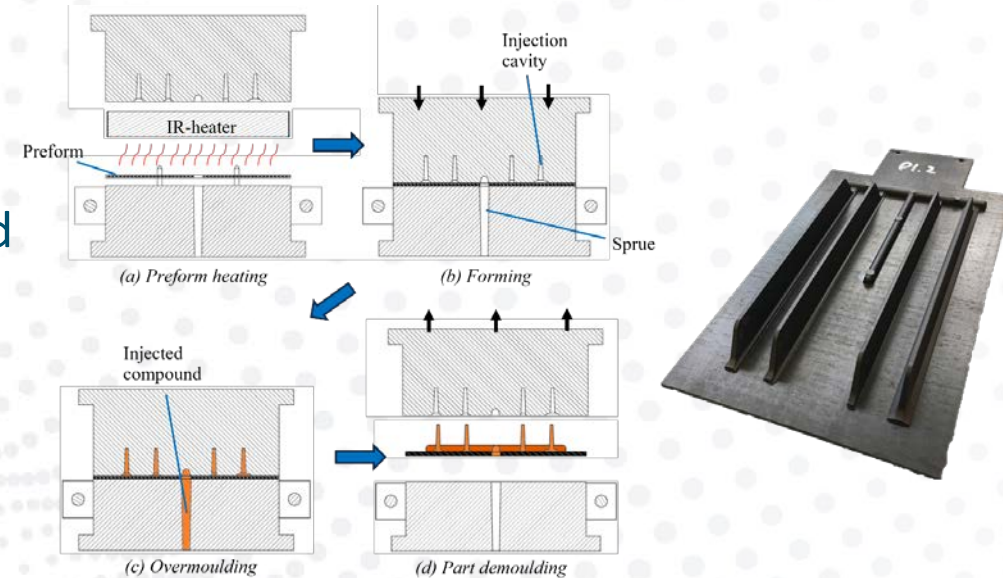

Fig. 5: Diagrams of key stages during the overmoulding cycle, showing final manufactured CF/PPS ribbed plate [4].
- Increased pre-heating temperatures improves the bond strength, Fig. 5.